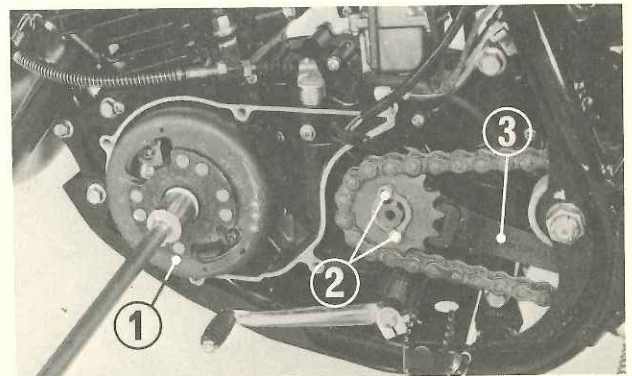

Fig. 3-21 (1) A.C. generator rotor
2. With transmission gear placed in any position other than neutral, set drive sprocket holder (Tool No. 07922-3570000) as shown in Fig. 3-21 and remove 14 mm special nut tightening generator rotor.